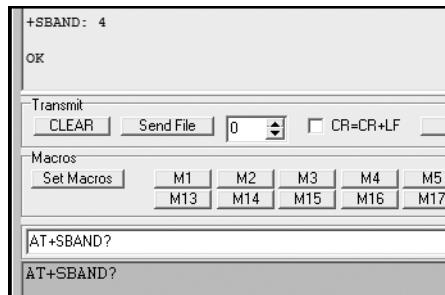

Figure 20-5: Example band interrogation
- Enter the command **AT+SBAND?** and press ENTER. The module should reply with the current band settings, as shown in Figure 20-5.